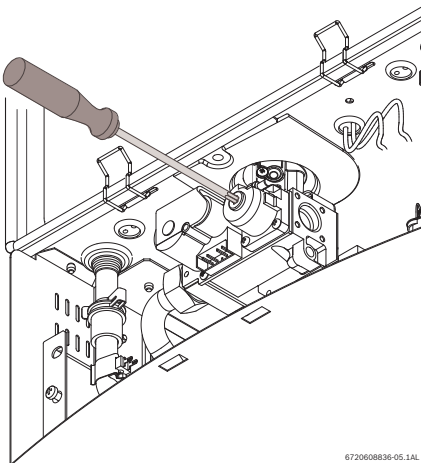

Fig. 63 Adjusting P2 CO2 level
- ▶ Remove yellow painted #40 Torx cover from the front of the gas valve. (Fig. 63) A plastic #40 Torx screw will be revealed.